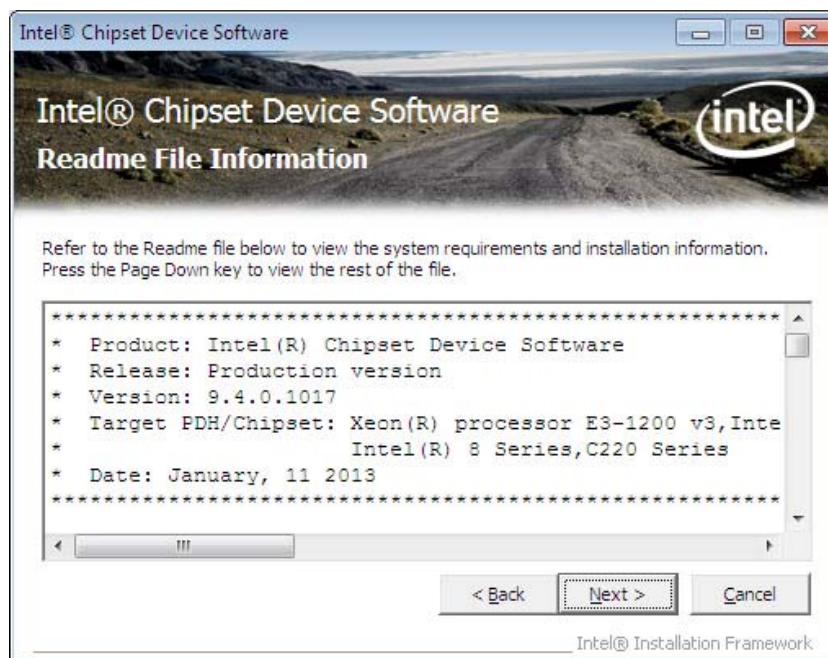

Figure 6-3: Chipset Driver Read Me File
Step 9: The Read Me file in Figure 6-3 appears.